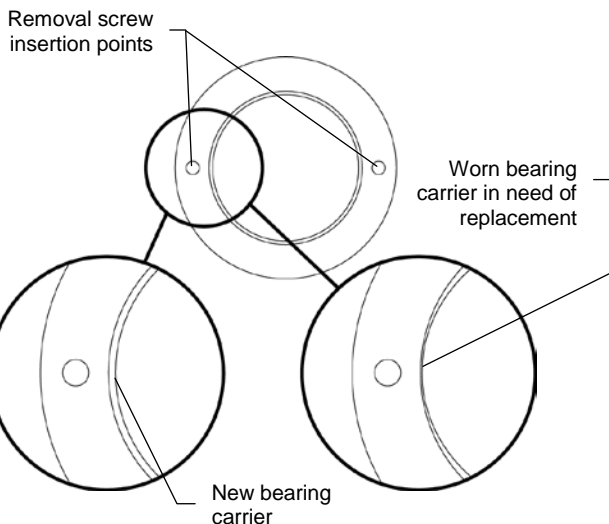

Figure 3
- 9) Install new cleaning blades and springs (item 7).
- 14) Inspect the actuator bearings (item 8) per Figure 3. Skip to step 16 if bearings are not worn. The bearings should be replaced every six months to keep the filter in proper working order.